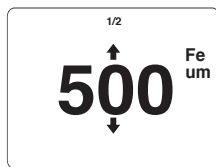

Figure 5
4. Press the ▲ and ▼ arrows to adjust the value to the actual thickness of the standard coating thickness film (as shown in Figure 5).